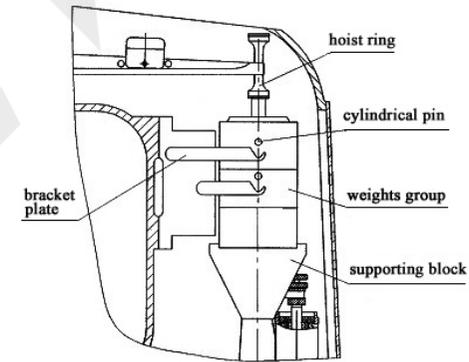

Figure 3
- 5 Hold the hoist ring with hands, lift up the group of weights slowly and at the same time remove the supporting block. Place them lightly so that the cylindrical pin on the weights group just falls onto the groove on the bracket plate which brackets the weights group (see Fig 3).